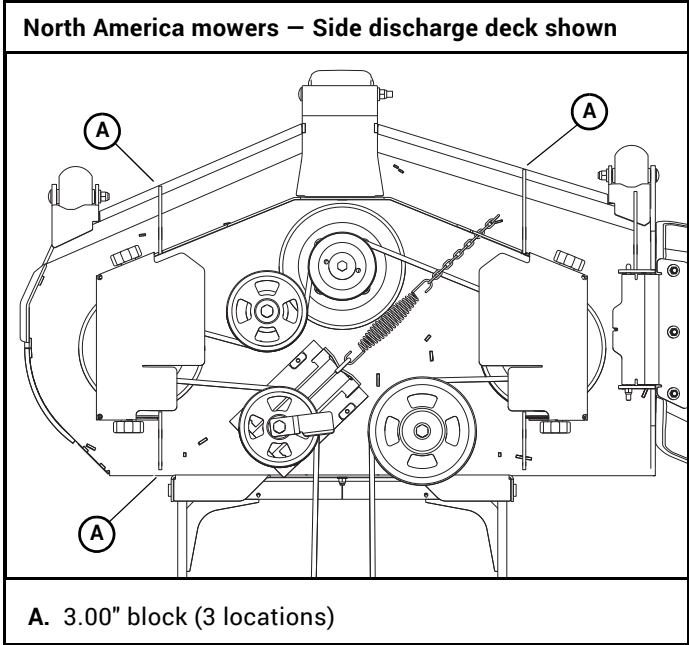
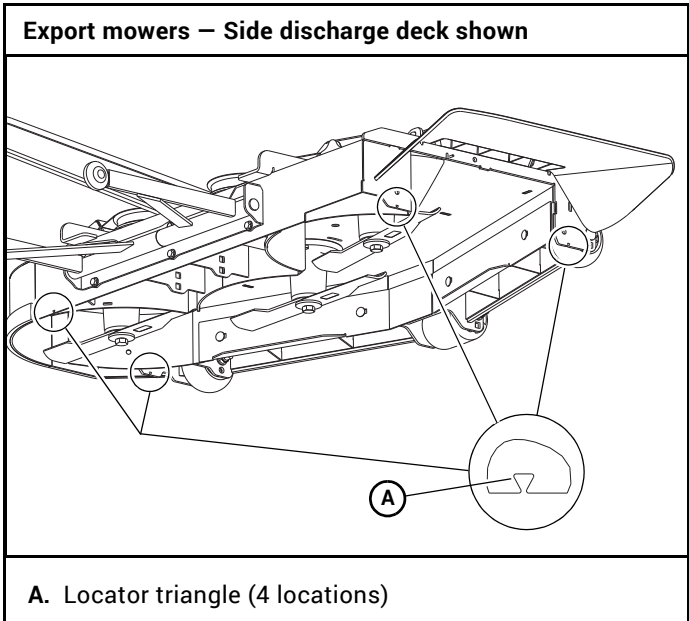
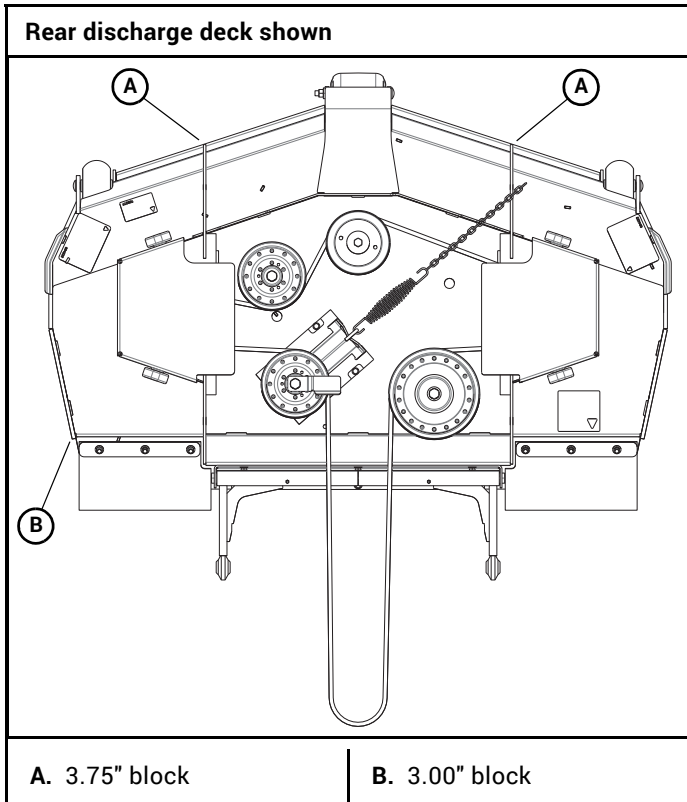

Figure 8-1
Figure 8-2
Figure 8-3
3. **Note: North America mowers – Side Discharge Decks –** Place 3" (76.2 mm) high deck support blocks (two stacked 2" x 4" blocks can be used to create a 3" [76.2 mm] high support) at the three points of the deck as shown. Figure 8-1
**Note: Export mowers – Side Discharge Decks –** Place 3" high deck support blocks (two stacked 2" x 4" blocks can be used to create a 3" [76.2 mm] high support) at the four corners of the deck marked with the locator triangle as shown. Figure 8-2
**NOTE:** Back of deck will automatically be set 1/4" (6.35 mm) higher. Figure 8-1, Figure 8-2 & Figure 8-3
**Rear Discharge Decks** (Figure 8-3) – Place two 3.75" (95.3 mm) high deck support blocks (two stacked 2" x 4" blocks and one 1" x 4" can be used to create a 3.75" [95.3 mm] high support) at the front of the deck as shown.